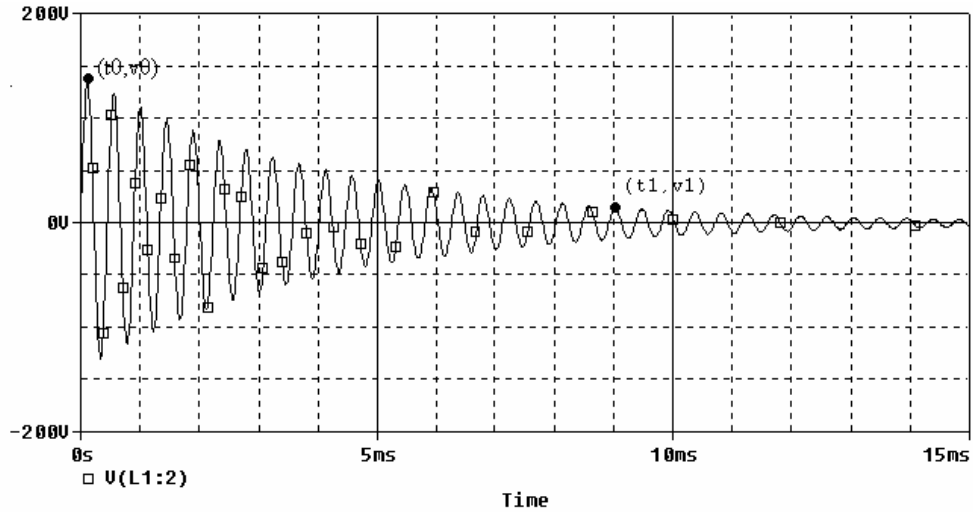

Figure B-4
*Damped Sinusoids:* The damped sinusoid in figure B-4 is governed by the equation:  $v(t) = Ce^{-\alpha t} \sin(\omega t)$ , where  $\alpha$  is called the damping constant that determines the rate of decay. To find the damping constant, choose two points at extreme ends of the sinusoid and use the following equation and solve for  $\alpha$ :